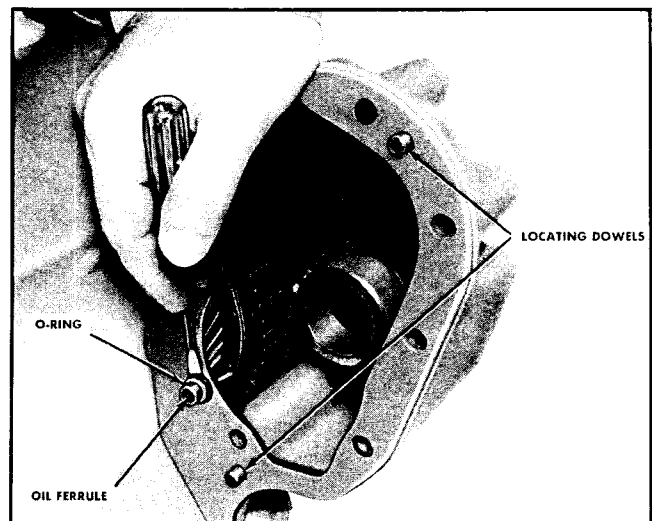

Fig. 4-7. Supercharger locating dowels and oil ferrule
3. Close to the lower dowel is a lubricating oil ferrule or feed tube; make sure it is in place. The supercharger and water pump drive are lubricated under pressure through this connection. A counterbore is provided in the gear housing for a rubber O-ring that fits over the oil supply ferrule. Fig. 4-7.